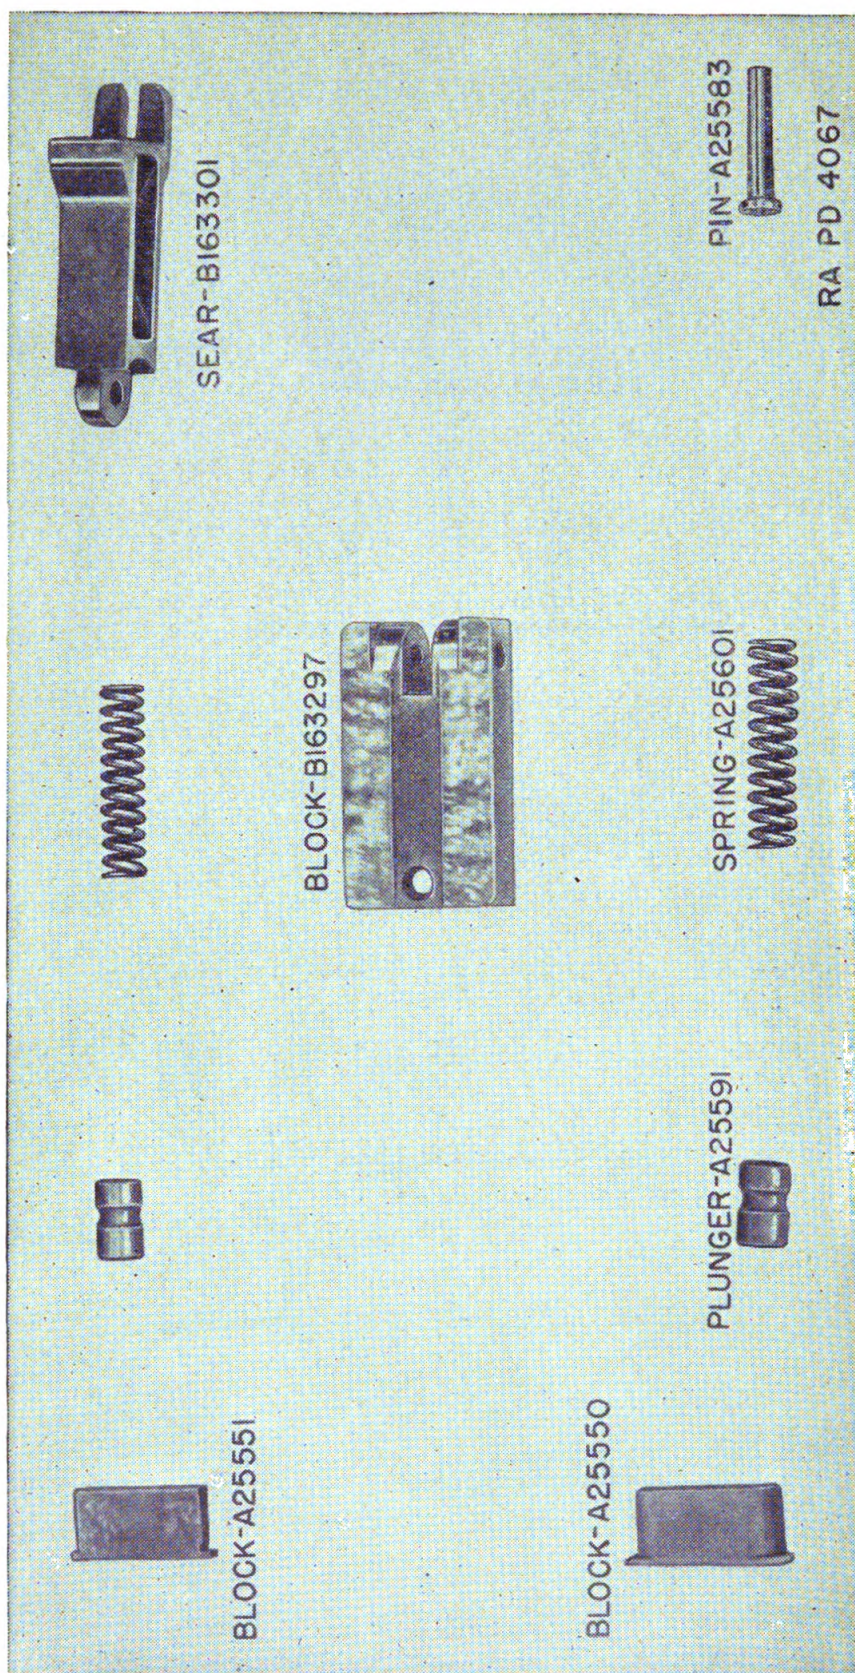

FIGURE 13.—20-mm automatic gun M2, sear block group parts.
e. Sear block group.—Insert a rod into the hole of the sear block, lift out the sear and sear block, and detach the sear from the sear block. Place the sear block in a vise so that the tension of sear buffer springs can be taken off the rod. Remove the rod and loosen the vise to release the tension of these springs (fig. 13).